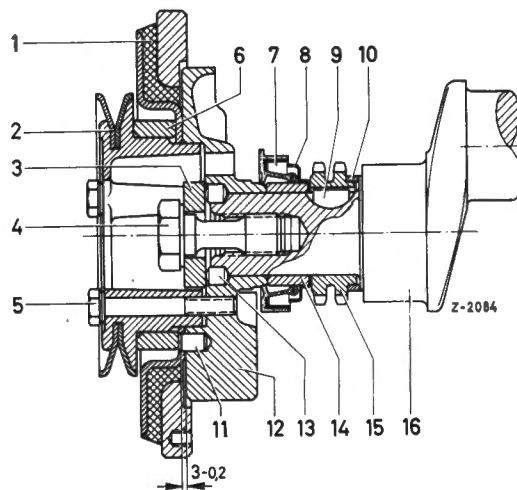

Fig. 03-10/2
2. Unscrew the three hexagon screws (5) and
remove the vee-pulley (2) with the forced-on spacer ring (6) and the vibration damper (1) (Fig. 03-10/2).
3. Unscrew the stretch screw (4) with washer (3) from the crankshaft and pull the counterweight (12) off the crankshaft using Puller Part. No. 111 589 153 300.